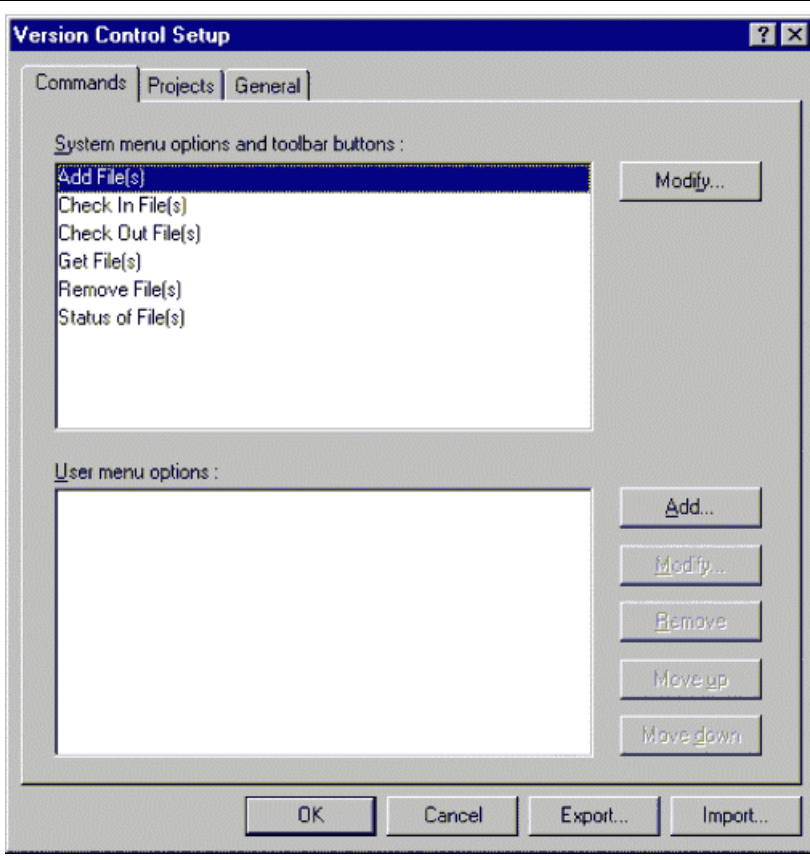
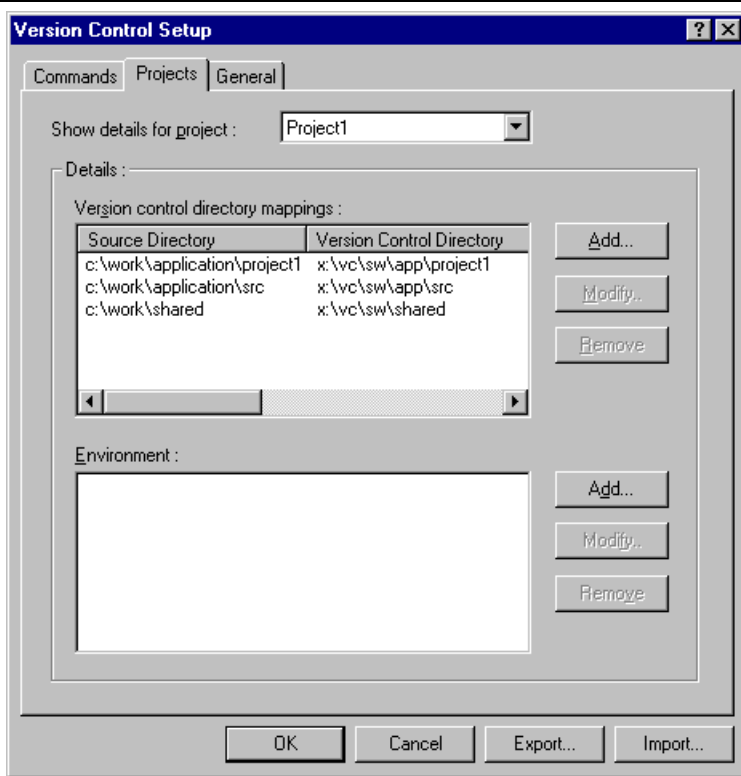

Figure 8.1: Version Control Setup Dialog Commands Tab
Figure 8.7: Version Control Setup Dialog Projects Tab
The custom version control support allows you the most flexibility in specifying how a version control system is to be used. To configure it, select [**Version Control->Configure...**]. The “Version Control Setup” dialog will be displayed * MERGEFORMAT (figure 8.1).
1. Select **[Version Control->Configure...]**. The dialog shown in * MERGEFORMAT figure 8.1 will be displayed.
1. Select [**V**ersion **C**ontrol->**C**onfigure...]. The dialog shown in * MERGEFORMAT figure 8.1 will be displayed.
1. Select [**Version Control->Configure...**]. The dialog shown in * MERGEFORMAT figure 8.1 will be displayed.
However, when executed, this command can only ever get the file MAIN.C. To resolve this problem, HEW uses a system of placeholders and directory mappings. The latter tell the HEW which "working" directories (i.e. where source files are being worked on) map to which "controlled" directories (i.e. where the source files are stored in the version control system). Mappings between these two directory systems can be specified via the "Projects" tab of the "Version Control Setup" dialog * MERGEFORMAT (figure 8.7).
1. Select [**Version Control->Configure...**]. The dialog shown in * MERGEFORMAT figure 8.1 will be displayed. Select the “Projects” tab, and the dialog shown in * MERGEFORMAT figure 8.7 will be displayed.
1. Select [**Version Control->Configure...**]. The dialog shown in * MERGEFORMAT figure 8.1 will be displayed. Select the “Projects” tab, the dialog shown in * MERGEFORMAT figure 8.7 will be displayed.
Select the “Projects” tab of the “Version Control Setup” dialog to view the current settings * MERGEFORMAT (figure 8.7).